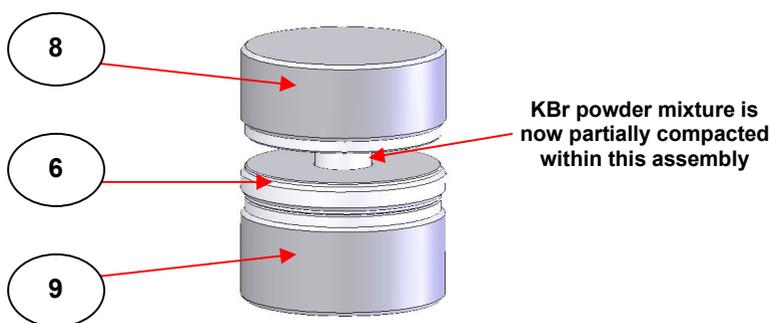

Fig 4. 7mm Pellet Die Assembly with Sample Prior to Pressing
Now, take the top anvil (8) and place it carefully (plunger face downwards) over the powder/7mm pellet die ring holder (6)/bottom anvil (9) assembly. Locate the central plunger section of the top anvil (8) over the powder sample within the aperture hole and use light pressure from your hand to compact the powder mixture into the hole. The mixture is sufficiently soft to allow the plunger part of the top anvil (8) to fit and locate loosely into place in the aperture hole of the 7mm pellet die ring holder (6).. (See Fig 4.)
Prepare the Mini Pellet Press to accept the 7mm pellet assembly (1) as formed at the stage shown to Fig 4.